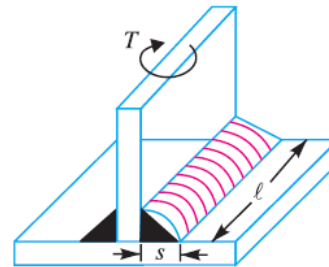

Figure 2
- Q3.** A plate 1 m long, 60 mm thick is welded to another plate at right angles to each other by 15 mm fillet weld, as shown in Fig. 2. Find the maximum torque that the welded joint can sustain if the permissible shear stress intensity in the weld material is not to exceed 80 MPa.